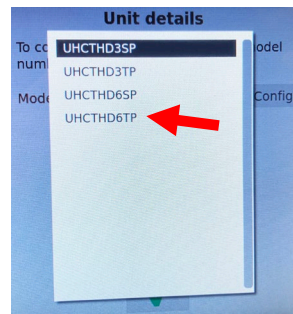

Figure 36
48. Select the correct configuration for the cabinet configuration (see Figure 36). Choose UHCTHD3SP for 3-row Single Sided; Choose UHCTHD3TP for 3-row Double Sided; Choose UHCTHD6SP for 6-row Single Sided; Choose UHCTHD6TP for 6-row Double Sided.